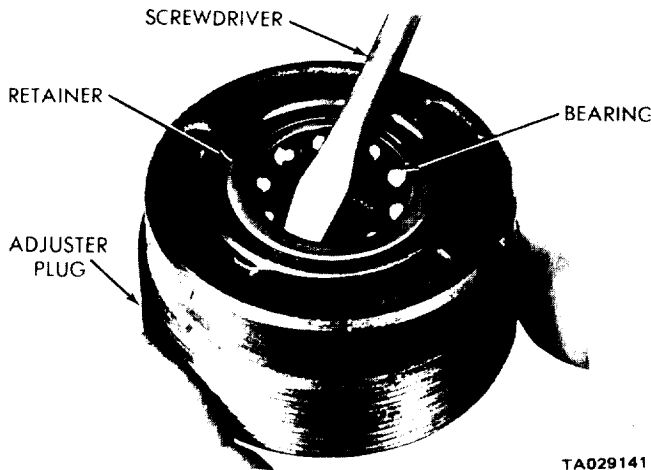

Figure 21-3. Removing Lower Bearing Retainer.
(7) Remove the remaining wormshaft bearing from the gear housing,
(8) Using a screwdriver, pry the lower bearing retainer from the adjuster plug, and remove the bearing (figure 21-3).
(9) Remove the locknut from the sector shaft adjusting screw and remove the screw by turning it clockwise. Slide the adjuster screw and shim out of the slot in the end of the sector shaft.
(10) Remove the wormshaft and sector shaft seals.
(11) Having disassembled the steering gear completely, make sure all parts are clean. Wash the parts in cleaning solvent and dry them thoroughly with compressed air. Check the bearings and bearing cups for signs of defects such as cracks, surface imperfections, and distorted cage. Replace defective parts.